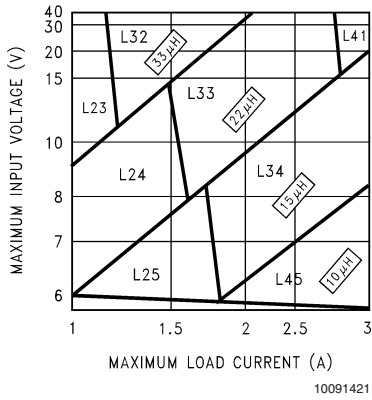
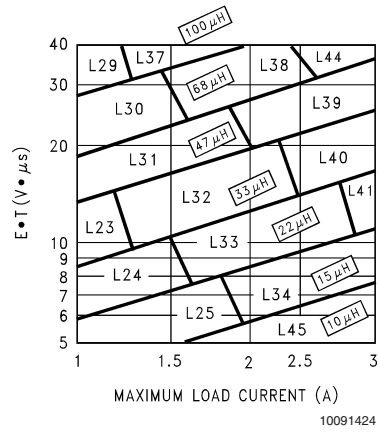

FIGURE 3. LM2676-3.3
FIGURE 6. LM2676-ADJ
Step 3: Determine the inductor required by using one of the four nomographs, *Figure 3* through *Figure 6*. Table 1 provides a specific manufacturer and part number for the inductor.
Step 5: Determine an input capacitor from Table 4 for fixed output voltage applications. Use Table 2 to find the specific capacitor type. For adjustable output circuits select a capacitor from Table 2 with a sufficient working voltage (WV) rating greater than $V_{in\ max}$, and an rms current rating greater than one-half the maximum load current (2 or more capacitors in parallel may be required).
Step 3: Use the nomograph for the 3.3V device, *Figure 3*. The intersection of the 16V horizontal line ($V_{in\ max}$) and the 2.5A vertical line ($I_{load\ max}$) indicates that L33, a 22 μH inductor, is required.
Step 3: To use the nomograph for the adjustable device, Figure 6, requires a calculation of the inductor Volt \cdot microsecond constant (E \cdot T expressed in V \cdot μ S) from the following formula:
Using Figure 6, the intersection of 27V \cdot μ S horizontally and the 2A vertical line (I_{load} max) indicates that L38, a 68 μ H inductor, should be used.
Important Note: When using the adjustable device in low voltage applications (less than 3V output), if the nomograph, Figure 6, selects an inductance of 22 μ H or less, Table 6 does not provide an output capacitor solution. With these conditions the number of output capacitors required for stable operation becomes impractical. It is recommended to use either a 33 μ H or 47 μ H inductor and the output capacitors from Table 6.